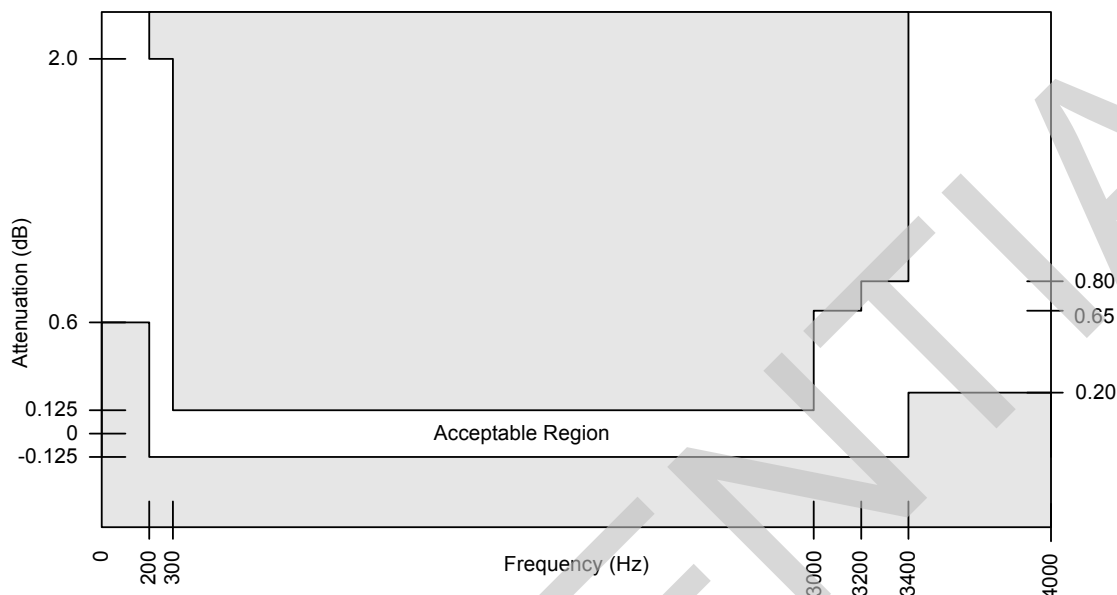
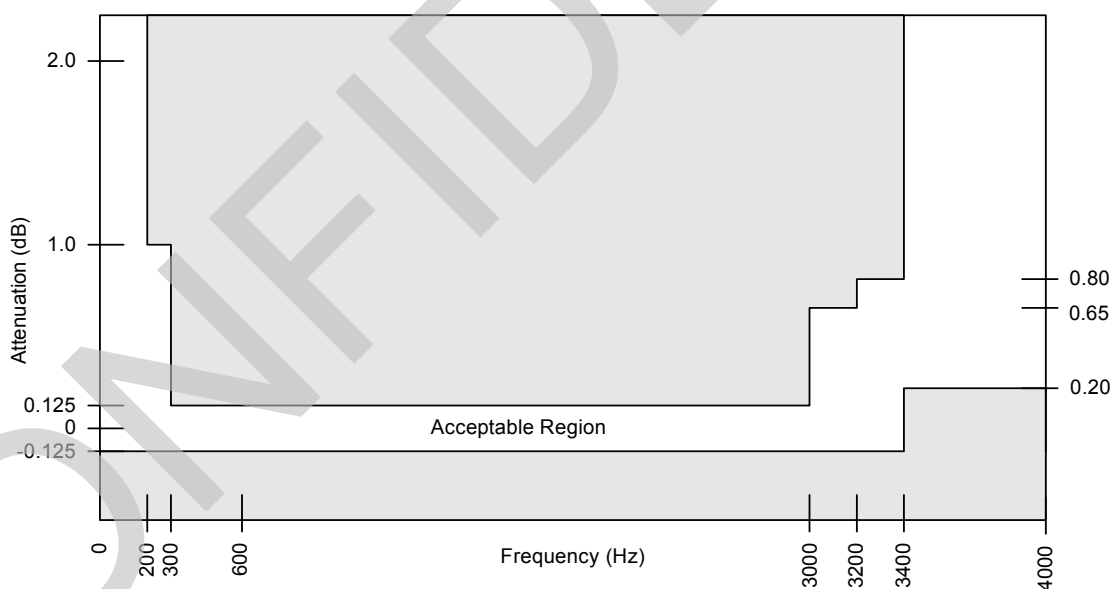

Figure 14 - Transmit (A to D) Path Attenuation vs. Frequency
Figure 15 - Receive (D to A) Path Attenuation vs. Frequency
3. See Figure 14 and Figure 15 on page 34.
The signal attenuation in either path is nominally independent of the frequency. The deviations from nominal attenuation will stay within the limits shown in Figure 14 and Figure 15. The reference frequency is 1014 Hz and the signal level is -10 dBm0.